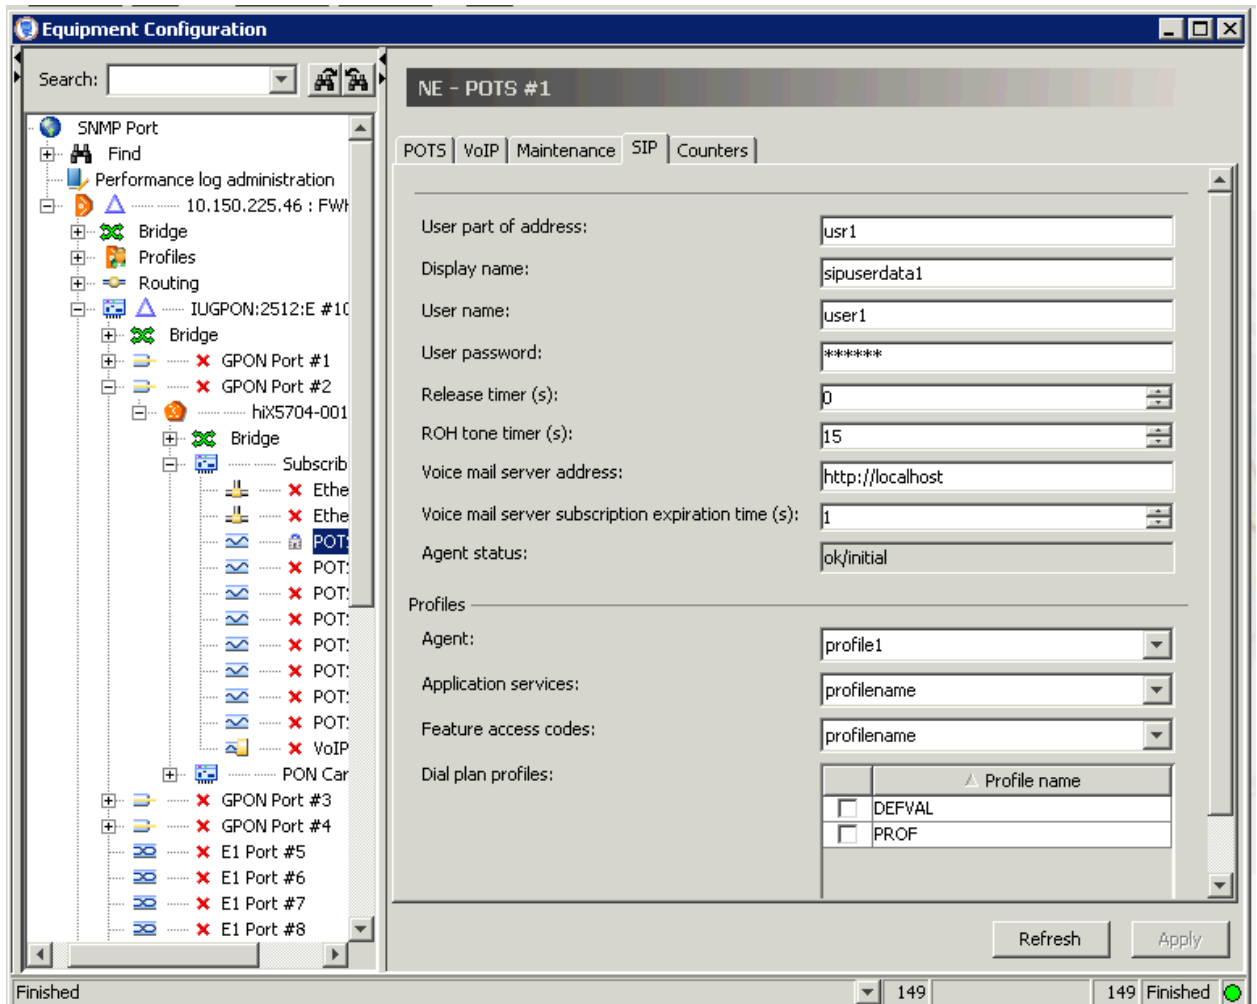

Figure 36 SIP over POTS Port
2. Enter the needed configuration data, see Figure 36: